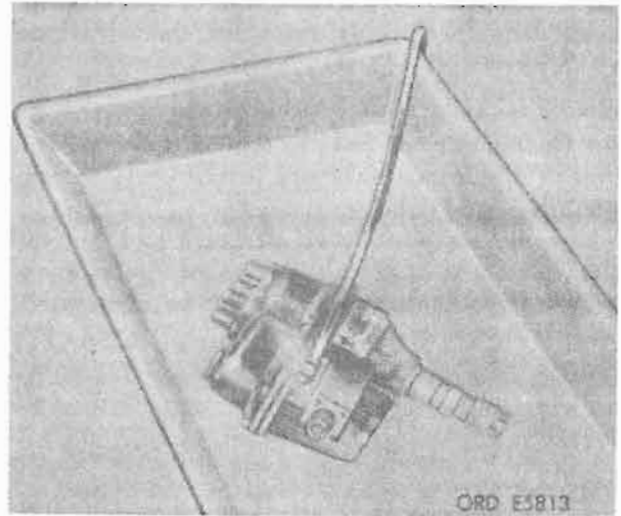

Figure 6-15. Checking distributor for leaks.
a. Connect an air hose to one of the ventilating holes in distributor base and install plugs in other holes (fig. 6-15).